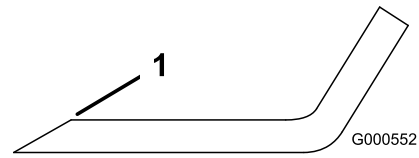

Figure 78
1. Use a file to sharpen the cutting edge at both ends of the blade (Figure 78).
Note: If the blade is not balanced, file some metal off the end of the sail area only (Figure 78).